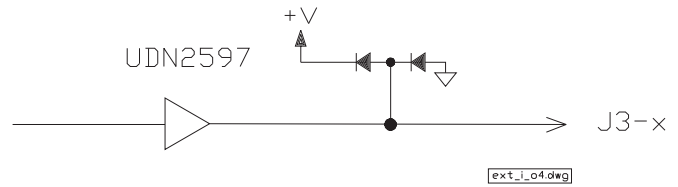

Figure 2-5
**Figure 2-5:** Status outputs at “x” are open-collector integrated circuit outputs to ground. When the corresponding, externally located, status indicator is illuminated, the transistor inside the IC turns on providing a current sink from the status output to ground. Maximum safe voltage at a status output terminal is +15VDC, and a maximum safe current into a status output is 100mA.